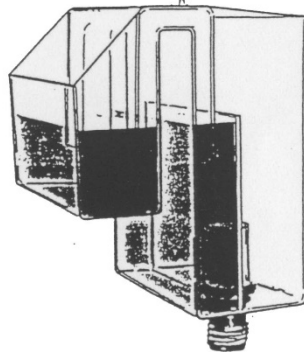
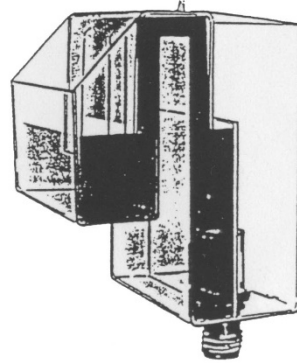

Fig. 3
Fig. 4
5. Fill front chamber with aquarium water (Fig. 3). To start the overflow, draw air out of the overflow box. This can be done by connecting an air tube to the nipple on top of the unit. The air can be removed by either connecting the tube with a current pump or by sucking on it until flow starts (Fig. 4).